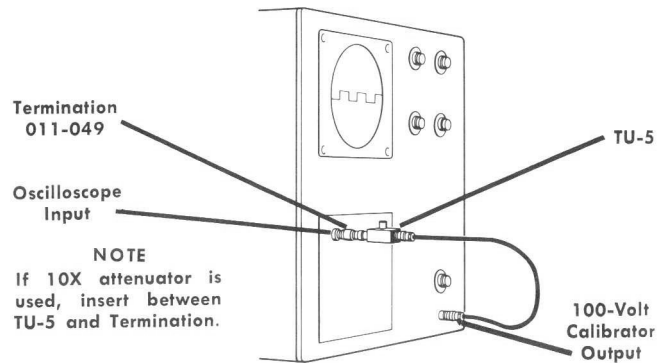

Fig. 2. Proper connection of the TU-5 and Termination to the oscilloscope input and Calibrator.
Whenever possible, use the connection method shown in Fig. 2. Connect the termination as close as possible to the input of the plug-in to reduce undesirable reactances and provide a clean step-function at the input to the plug-in unit.
1. With the TU-5 and termination connected as shown in Fig. 2, set the bias control fully counterclockwise and the oscilloscope Amplitude Calibrator for a 100-volt output.